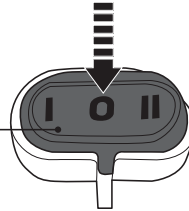

Fig. 24
> Press the on / off switch (11) to position O to switch the product off (Fig. 24).